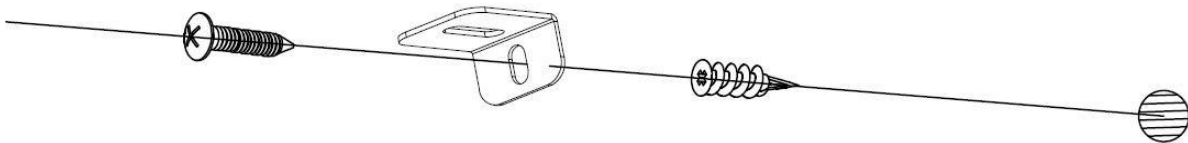

Fig 3-3
C. Install the plastic anchor (C) into the drywall, then install the screw B (supplied) into the hole of the L-bracket into the wall anchor to secure the fireplace from coming off the hooks. (Fig 3-3)